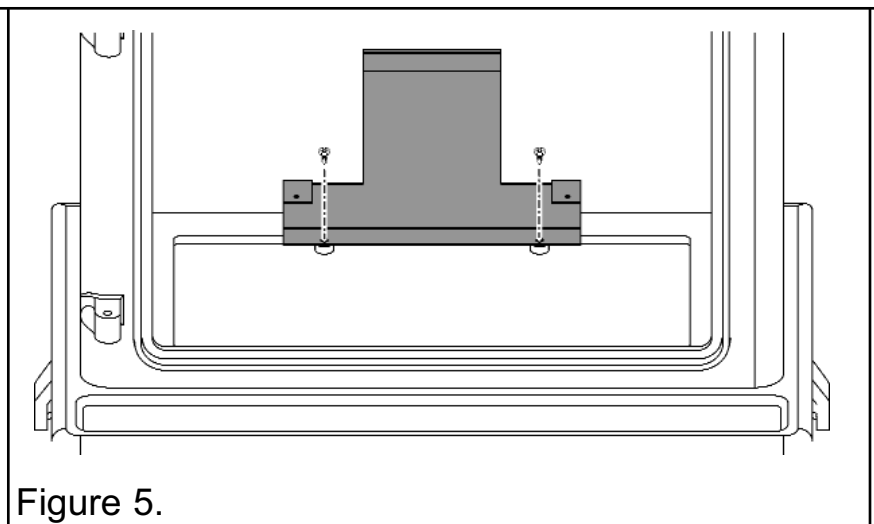

Figure 5.
- Secure the rear leg at the back of the stove base using two No.4 x 10mm screws supplied (See figure 5).